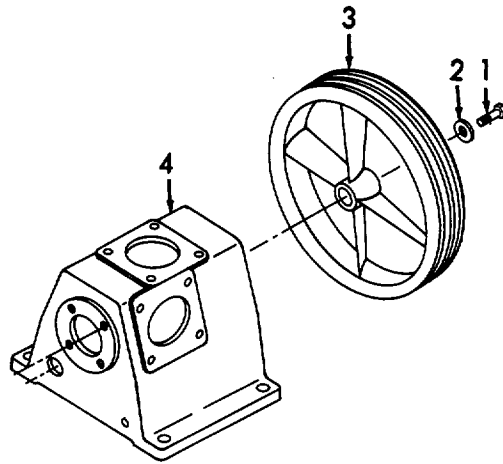

Figure 3-19. Compressor Flywheel, Removal.
- a. *Removal.* (Refer to Figure 3-19).